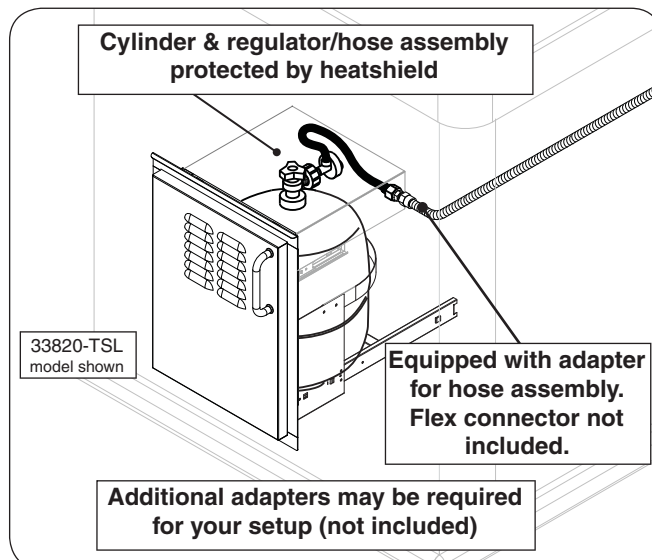

Fig. 12-3 Optional RHP door w/ tank tray
- **RHP offers propane tank door with tank tray models and a propane tank heatshield that rest directly on the tank to meet the cylinder install requirements. Propane tank door with tank tray shown in Fig. 12-3. Contact your dealer for ordering information.**